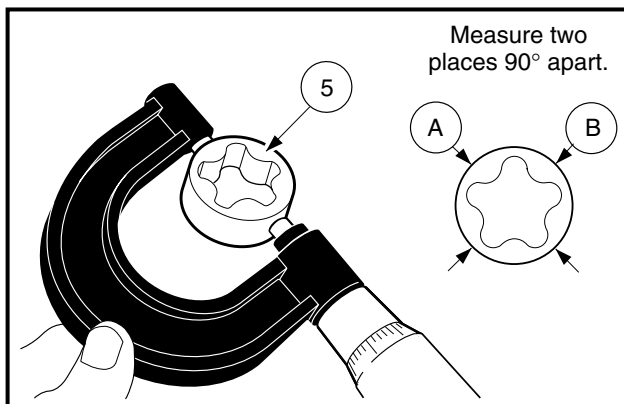

Figure 2-62 Measure O.D. of Outer Rotor
- 4.2. Use a micrometer to measure the diameter of the outer rotor at several points (**Figure 2-62, Page 2-29**).